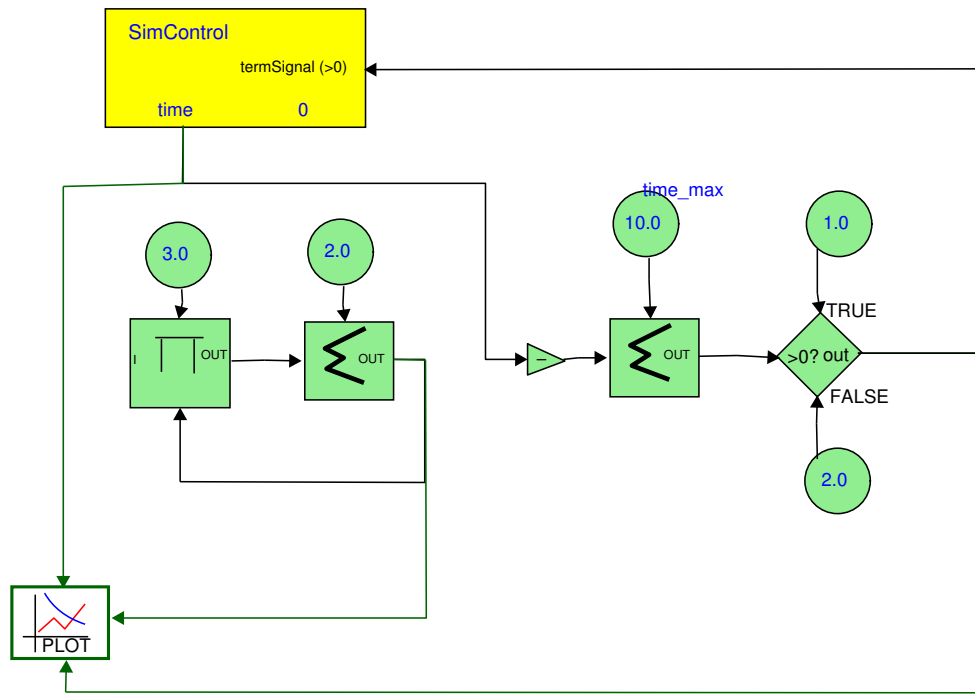

Figure 2: Model containing Algebraic Loop
3. The simulator must be able to detect dependency loops. The model loopTest\_CausalBlockDiagram.mdl.py depicted in Figure 2 for example contains an algebraic loop. You must isolate the algebraic loop and Highlight the links involved. An example of highlighting is given in DUMP\_model.py.